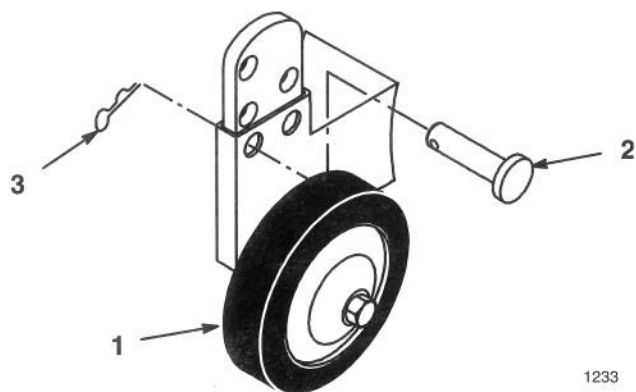

Figure 19
2. Remove hairpin cotter and pin to change hole location (Fig. 19).
3. Select a hole position so the gage wheel is $3/8$ " (9.5 mm) off the ground for the height-of-cut to be used (Fig. 19).